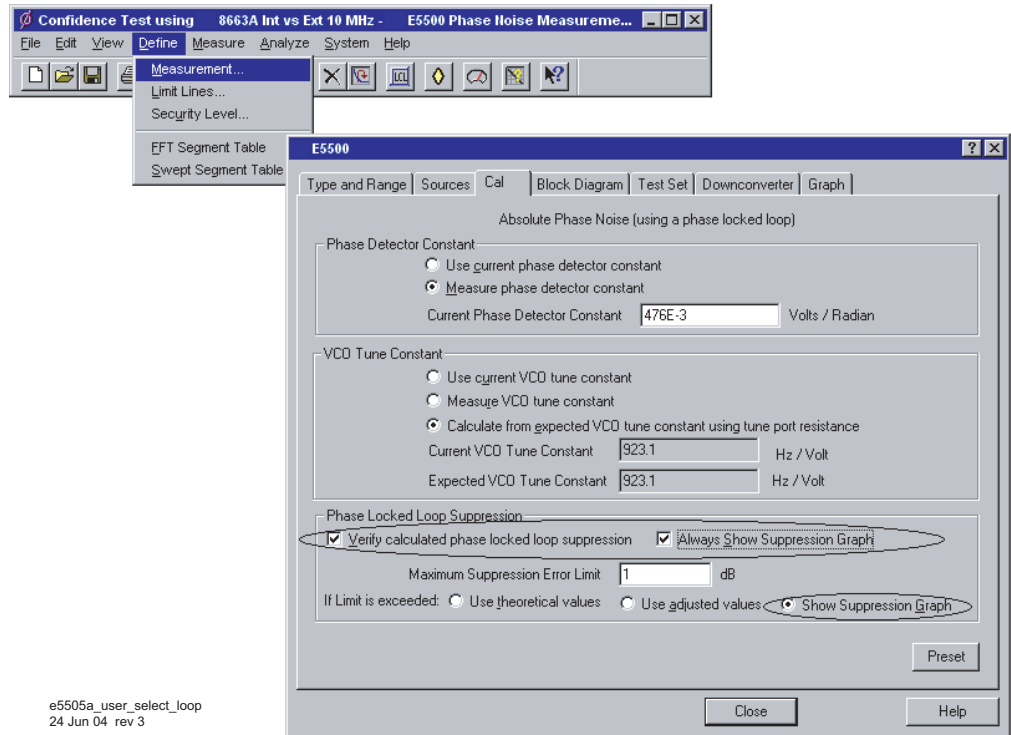

Figure 136 Selecting loop suppression verification
- 1 Using Figure 136 on page 191 as a guide, navigate to the **Cal** tab.